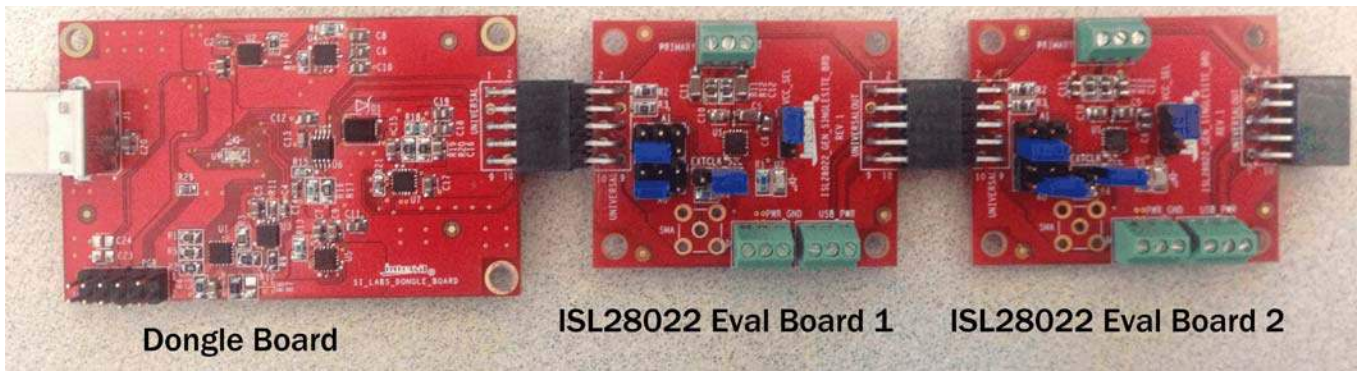

FIGURE 14. PICTURE OF MULTIPLE ISL28022 EVALUATION BOARDS CONNECTED TO THE DONGLE BOARD
- An ISL28022 design can have 16 devices connected on a single I²C bus. The ISL28022 evaluation kit allows the user to cascade up to 13 ISL28022 Evaluation Boards. The dongle uses three slave addresses (0x9E, 0x9C, and 0x9A) for measuring the current and voltage of the 3.3V, 12V and Pol_V supplies. Figure 14 is a picture of the dongle board connected to two ISL28022 evaluation boards.